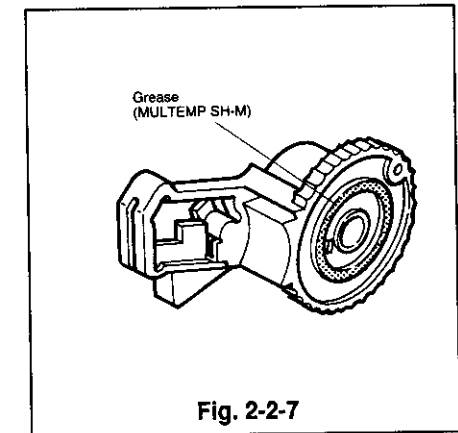

Fig. 2-2-7
- ⑤ Ensure the spring action is effective by holding the sens gear and turning the drive gear slightly clockwise, observing whether the drive gear returns when released.
- ⑥ Apply the grease (MULTEMP SH-M)[859D055O60] to the area of the new takeup arm shown in Fig. 2-2-7.